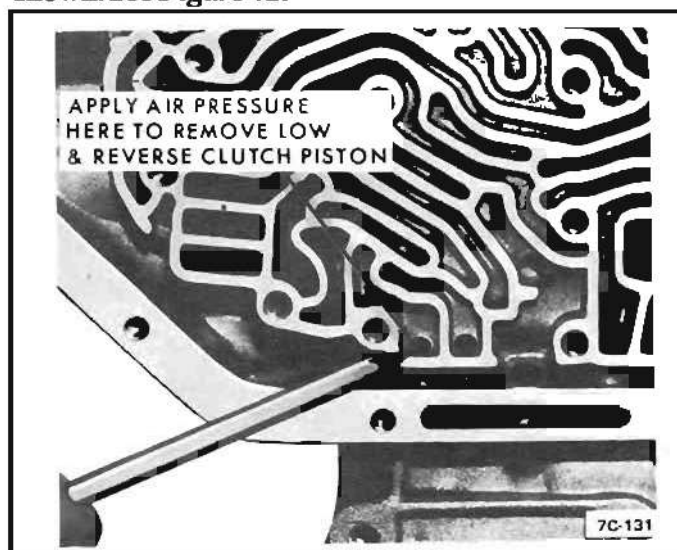

Figure 42 Location of Air Pressure
2. Remove low and reverse clutch piston assembly. Aid removal with the use of compressed air in passage shown. *See Figure 42.*